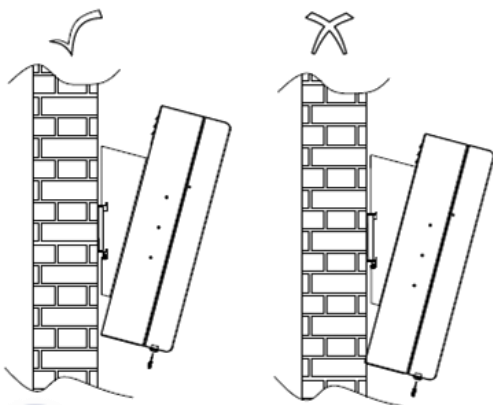

Figure16
STEP 24: After making sure the enclosure brackets and wall plate are securely tightened, steadily lift the enclosure onto the wall plate and secure, ensuring the brackets are slotted over the wall plates top lip and the enclosure doesn't touch the wall (Figure16) – If necessary, reposition the bracket arms to accommodate more room.